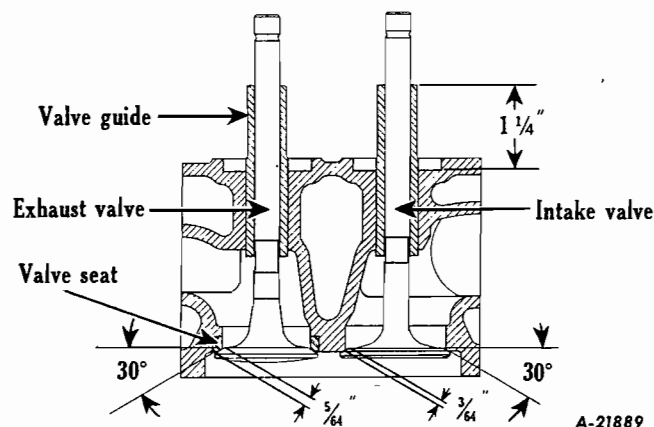

Fig. 19 - Diagram showing valve installation.
5. Inspect each valve coated with blue for seat position. The seat should be at the approximate center of valve face, 3/64"-5/64" wide for exhaust, and 1/64"-3/64" wide for intake (Fig. 19).